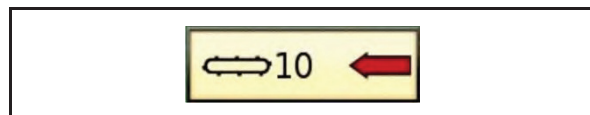

Fig. 160
2. Keep the key button (1) pressed to the top (2) or to the bottom (3) until the terminal displays the desired speed level next to the symbol "Crossover conveyor" (Fig. 160).